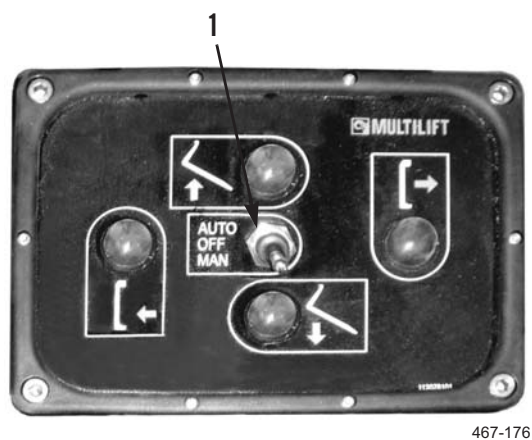

Figure 46. Toggle Switch at OFF.
18. Set toggle switch (Figure 46, Item 1) to OFF.